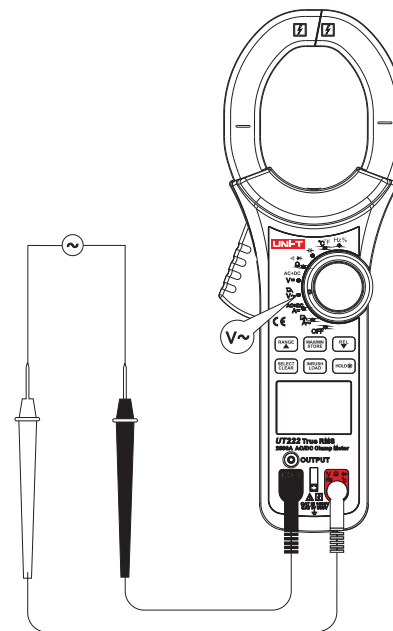

Figure 5
2. AC voltage measurement (See Figure 5)